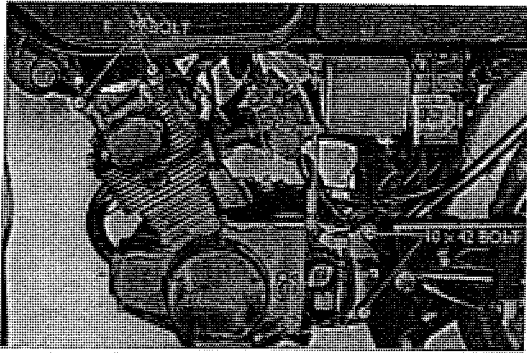

Fig. 3.9 Engine mounting bolt
10. Remove the engine mounting bolts and separate the engine from the frame. (Refer to Fig. 3.9)